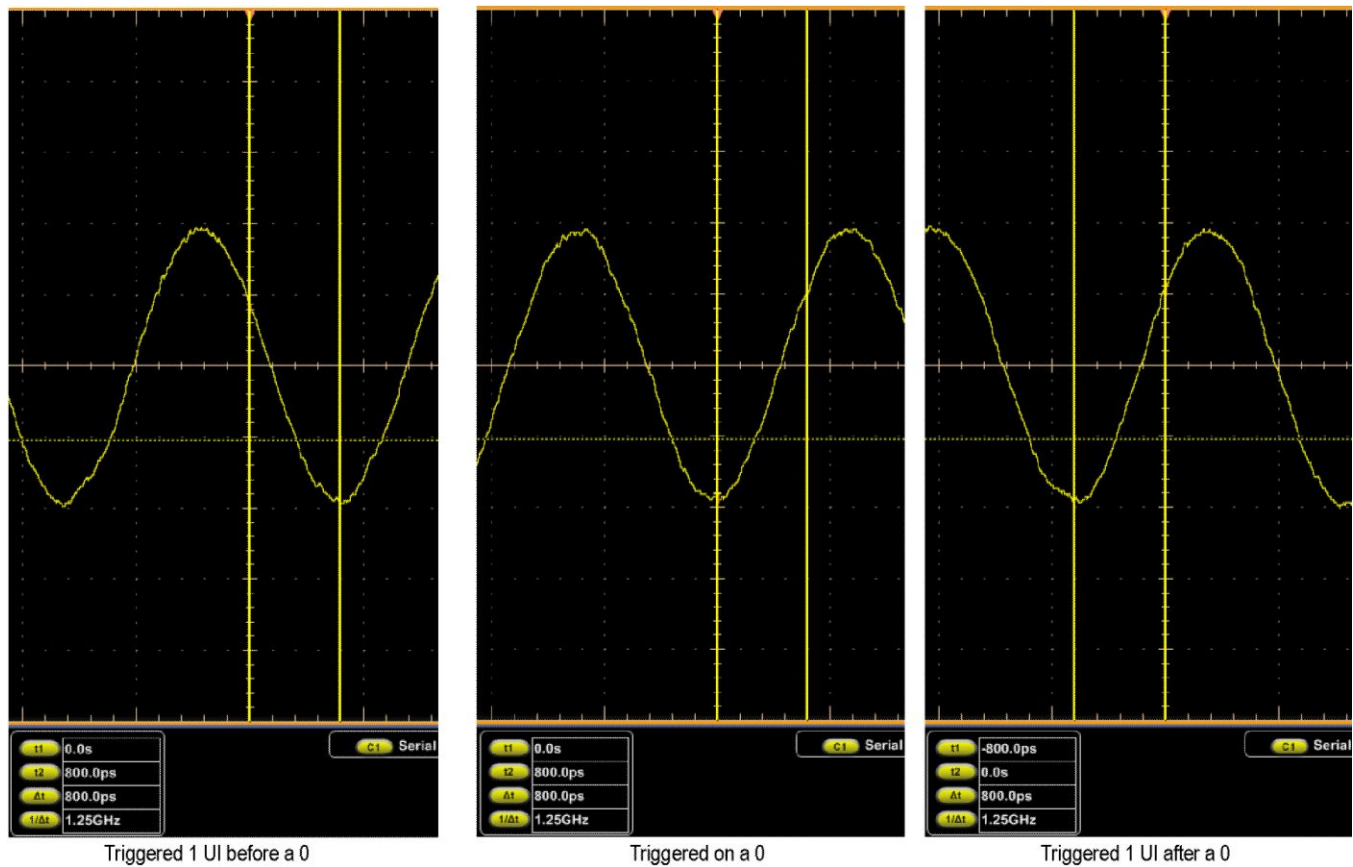

Figure 42: Isolated 0 triggering
- l. Center Cursor 2 in the low of the waveform just to the right of the center graticule line (See Figure 42: Isolated 0 triggering on page 274.)
- q. Center the Cursor 1 in the low of the waveform nearest the center graticule line. (See Figure 42: Isolated 0 triggering on page 274.)
- v. Center Cursor 1 in the low of the waveform just to the left of the center graticule line. (See Figure 42: Isolated 0 triggering on page 274.)
- w. Verify that the instrument triggers one Unit Interval (UI) after the 0 in the input signal. The absolute value of the T2 cursor readout must be ≤ 325 ps. Enter pass or fail in the test record.